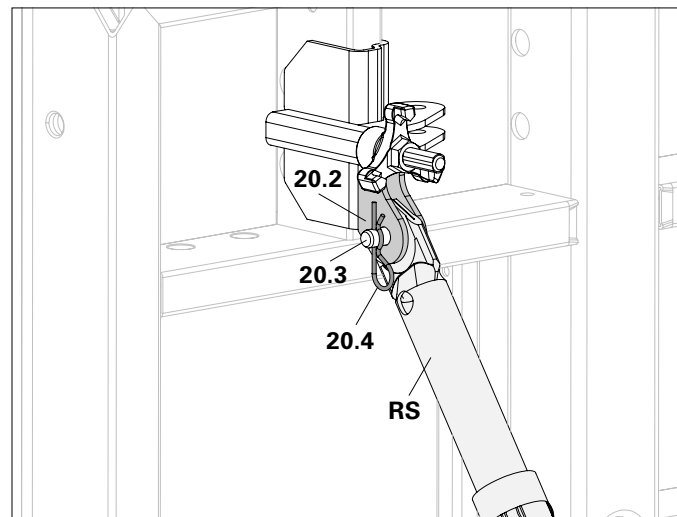

Fig. A6.01b
- Vertical assembly of the prop connector: connect Push-Pull Prop (RS) and connection lugs (20.1) with bolts (20.3) and cotter pins (20.4). (Fig. A6.01b)